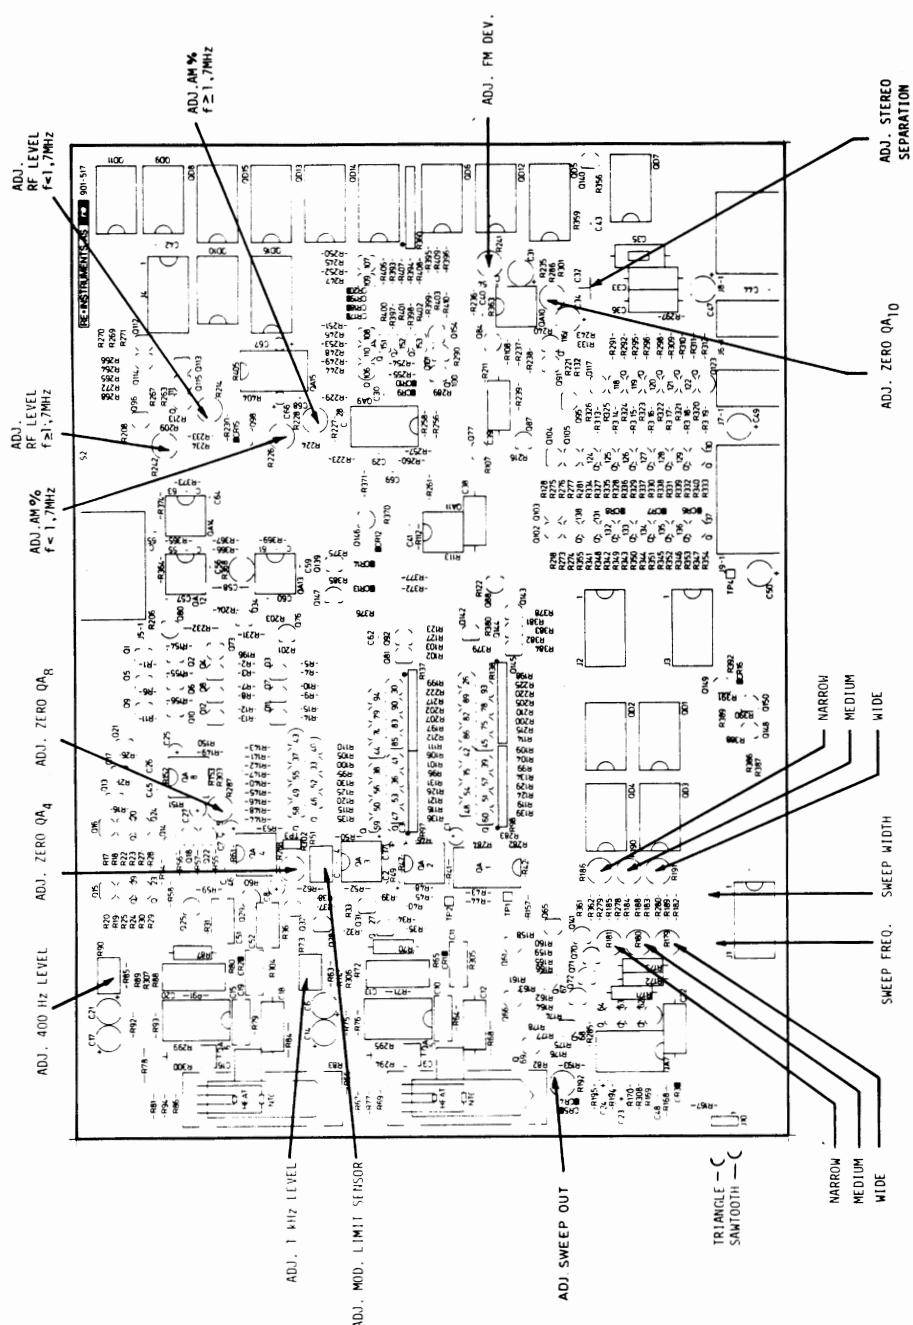

Fig. B3 - MODULATION AND SWEEP ADJUSTMENTS
Three sweep widths are provided, NARROW, MEDIUM and WIDE. The sweep widths and sweep frequency can be adjusted individually as shown in Fig. B3. Triangular or saw tooth sweep signal can be chosen by placing a jumper as shown in Fig. B3.
In the AM & FM mode the AM percentage is fixed at 30% and the modulation frequency is 1 kHz. The FM deviation is set by (12) and the mod. source chosen by (10). The NARROW, MEDIUM and WIDE sweep widths and repetition frequency can be set by internal potentiometers placed on the Modulation Unit PCB, see Fig. B3.